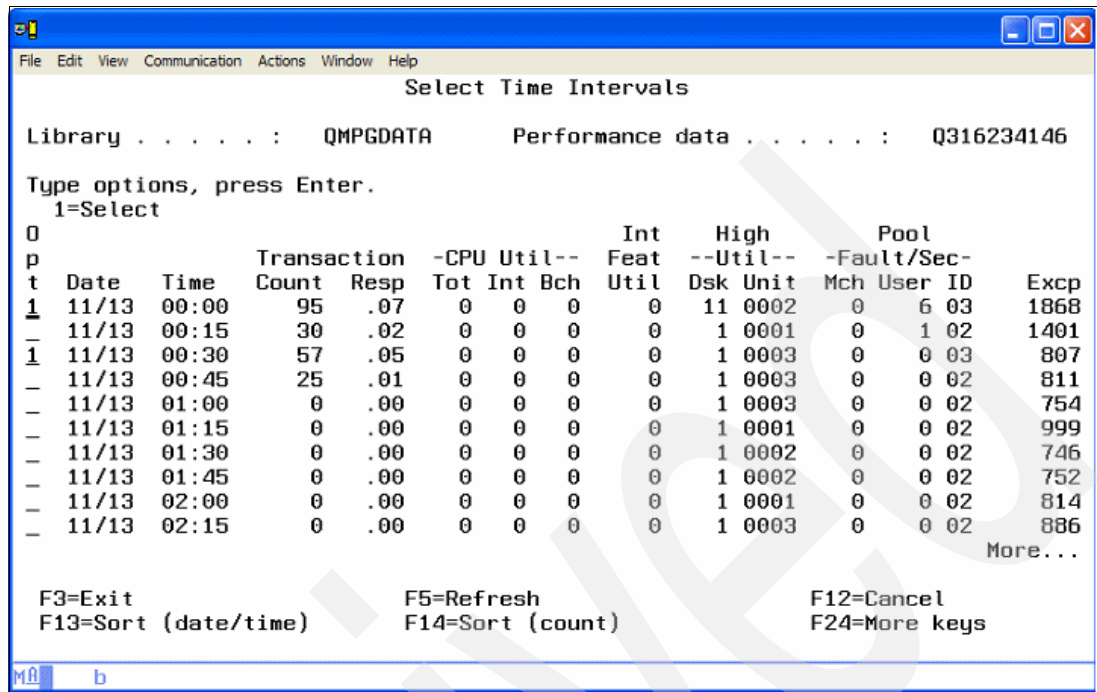

Figure A-25 Select Time Intervals panel
- On the Select Time Intervals panel (Figure A-25), select one or more time intervals.
4. In the Select Time Intervals panel (Figure A-25 on page 468), select one or more time intervals. We choose the time period or periods of interest.